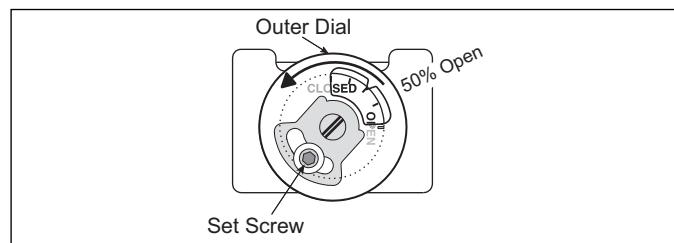

Figure 4.3.Manual Gas Butterfly 50% Open
3. Set the manual gas valve at each burner to 50% open. See Figure 4.3. If using an adjustable limiting orifice valve, set it at 5 full 360° rotations up from the bottom.